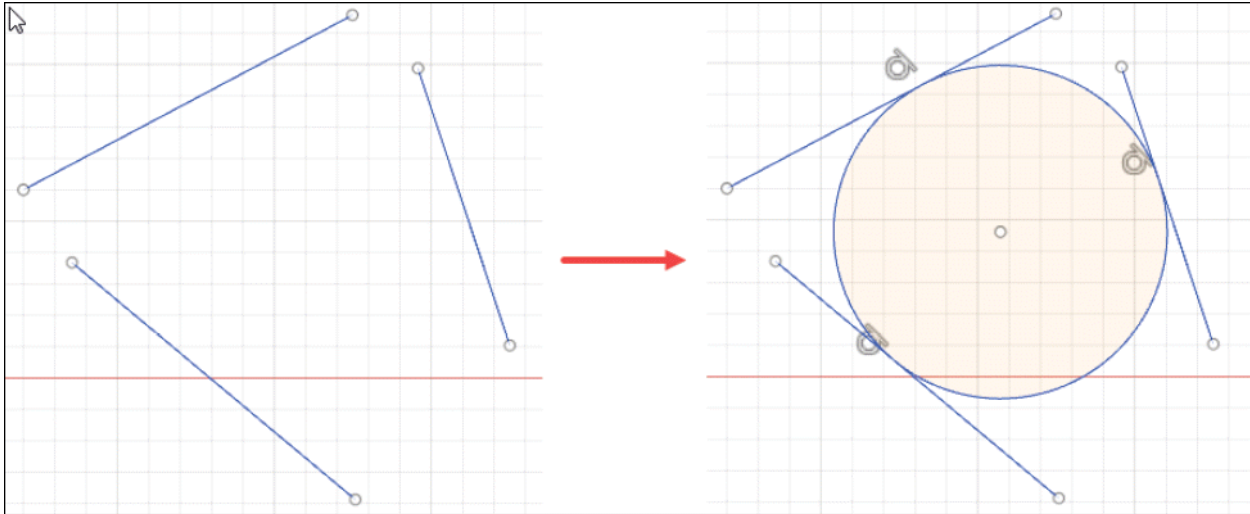

Figure-18. Creation of 3-tangent circle
- Select three lines to be tangent to the circle. You can also use window selection to select the lines; refer to Figure-18. The preview of circle will be displayed.